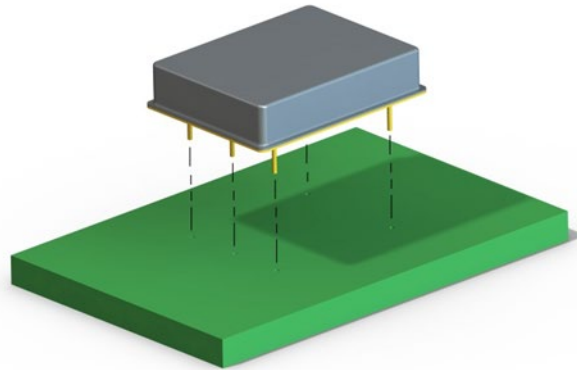

Figure 1
2. Insertion into the trimming fixture. The product should be inserted straight down over the holes until it sits flat on the trimming fixture, ensuring only the lead length to be trimmed, or waste area, is visible from the other side. See Figure 1.